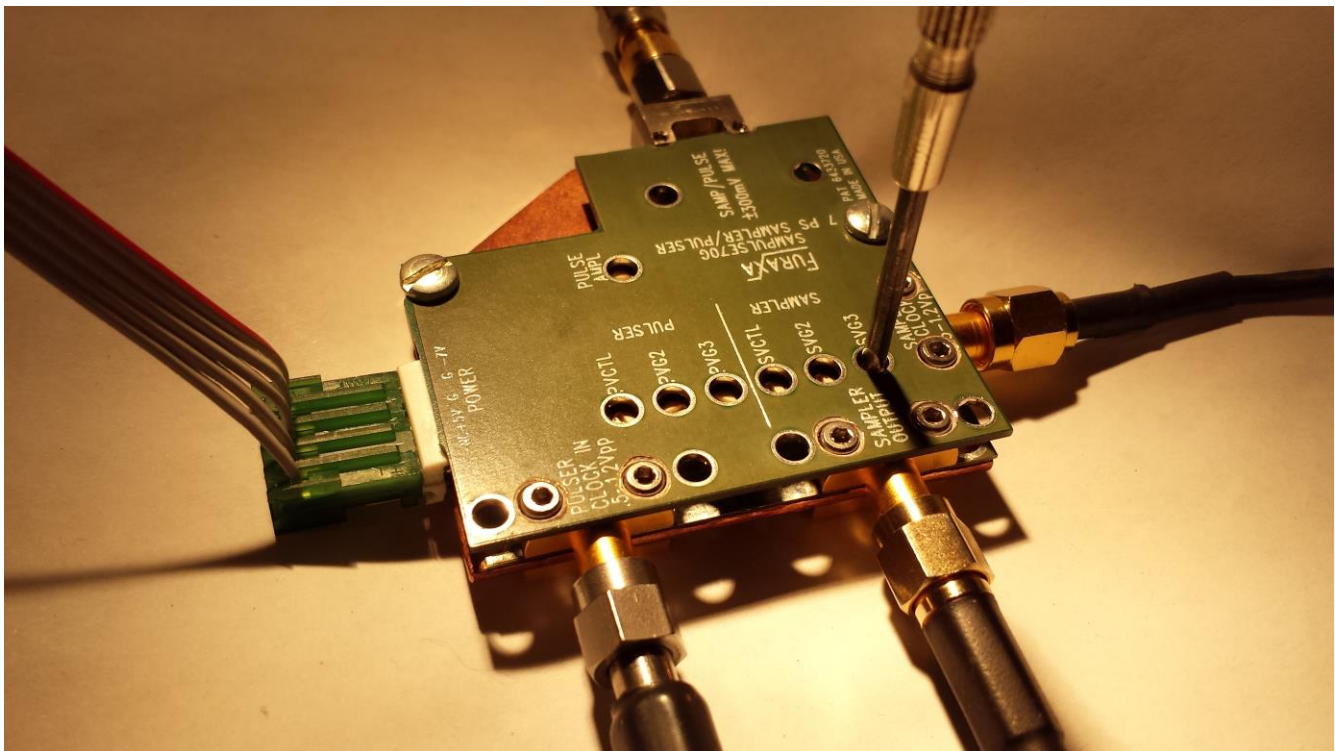

Figure 2. Adjusting sampling aperture for optimal bandwidth using SVG3 potentiometer. Necessary when using SCLK frequencies significantly different than 1GHz.
The sampler clock input is fed into the SMA jack labeled SAMPLER CLOCK, and should ideally be a square wave with rise time under 150pS and amplitude of approximately 1V to 1.5V p-p. It may be set to any frequency from 1 MHz to 3GHz (a +12dBm sine wave input with approximately a 50% duty cycle may be substituted for the square wave for frequencies above 200MHz), causing the board take samples at rates from 1 million to 3 billion per second. Amplitude of either sine or square wave sampler clock input should be approximately +12dBm (~850mV RMS). **The module is calibrated at the factory using a 1GHz sampler clock frequency. If changing sampler frequency outside the 1GSPS to 2GSPS range, it will be necessary to readjust potentiometer SVG3 as shown in Figure 2.**
- 3) Using flexible cables, connect a square wave clock source of 500 – 1200mV p-p, with rise time <150ps, to the SCLK (and optionally PCLK) connectors. For initial testing as a TDR, use a +12dBm sine wave or square wave, with a frequency of 1000 MHz for PCLK and a frequency of 999.98MHz for SCLK. As the output pulses are narrow (7ps) and may be difficult to find, it is most convenient to use as high a clock frequency as possible for initial testing. **If using SCLK frequencies significantly different than 1GHz, it will be necessary to readjust SVG3, and possibly SVG2 as shown in Figure 2. Similarly if using PCLK frequencies significantly different than 1GHz, it will be necessary to readjust PVG3.**